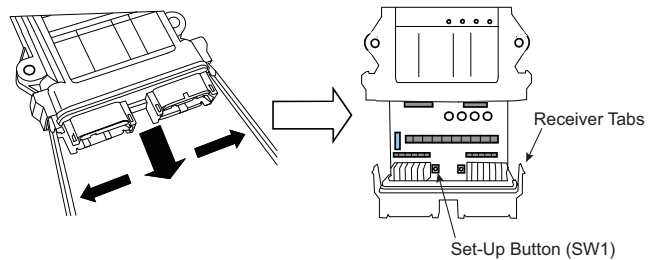

Figure 2
1. Release the two tabs holding the receiver cover and pull out the receiver circuit board. See Figure 2.
- e. Press and hold the receiver SET-UP button, see Figure 2. The STATUS LED on the receiver will begin to flash approximately once per second. Release the receiver SET-UP button as soon as the STATUS LED begins to flash rapidly, this should take approximately 5 seconds.